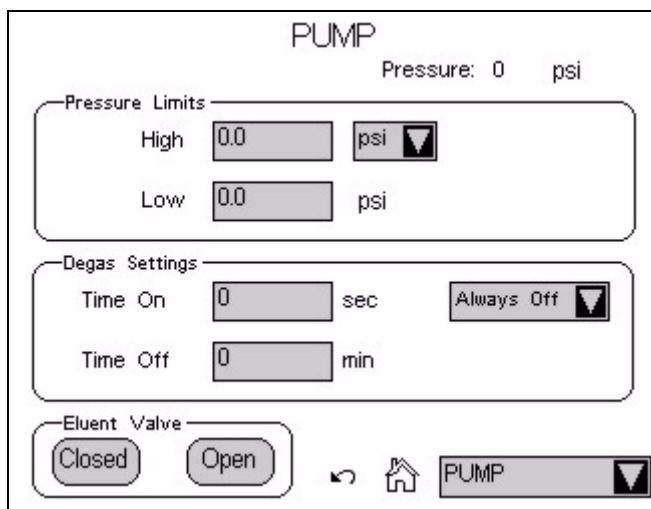

Figure 28. Pump Page: Eluent Valve Open
5. Touch **PUMP** to open the touch screen **PUMP** page (see Figure 28). Under **Eluent Valve**, touch the **Open** button.